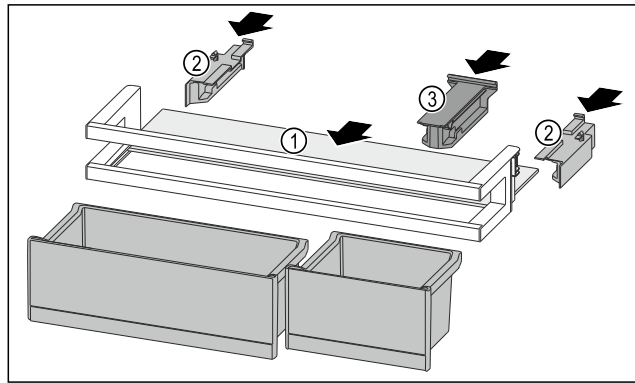

Fig. 155
- ▶ Push the shelf Fig. 155 (1) into the side recesses.
- ▶ Insert the side parts Fig. 155 (2).
- ▶ Insert the holding part Fig. 155 (3).